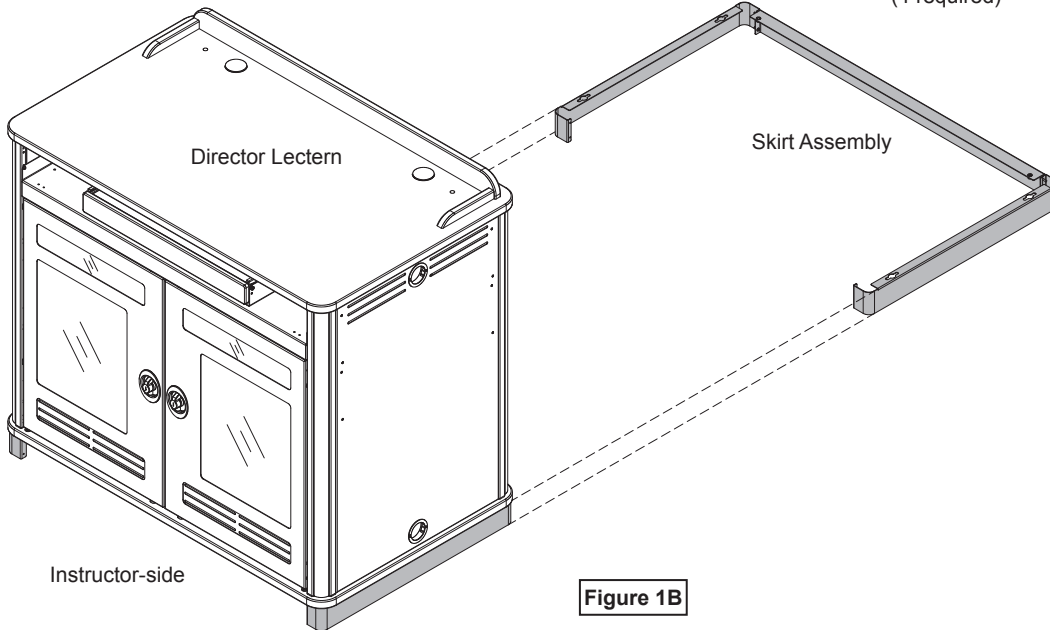

Figure 1B
2. Move lectern into position over the assembled skirt as shown. **Figure 1B.**